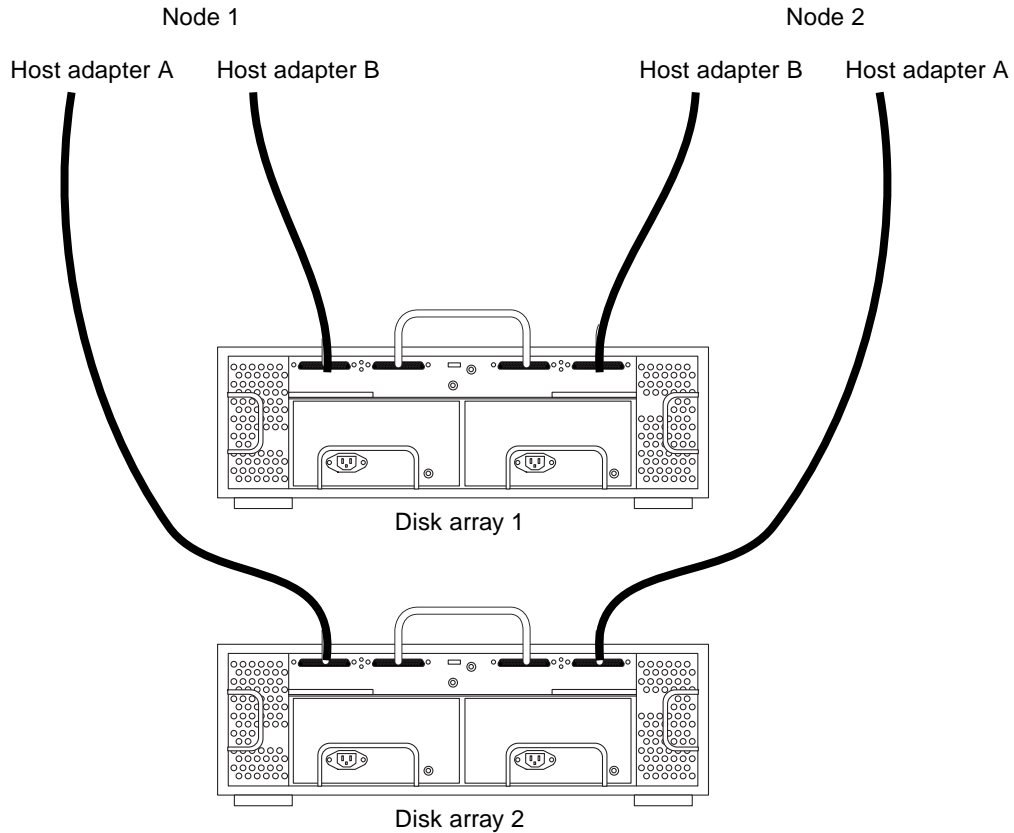

FIGURE 5-3 Example of a StorEdge D1000 Disk Array Mirrored Pair
15. Connect the StorEdge D1000 disk array to the host adapters by using differential SCSI cables (see FIGURE 5-3).